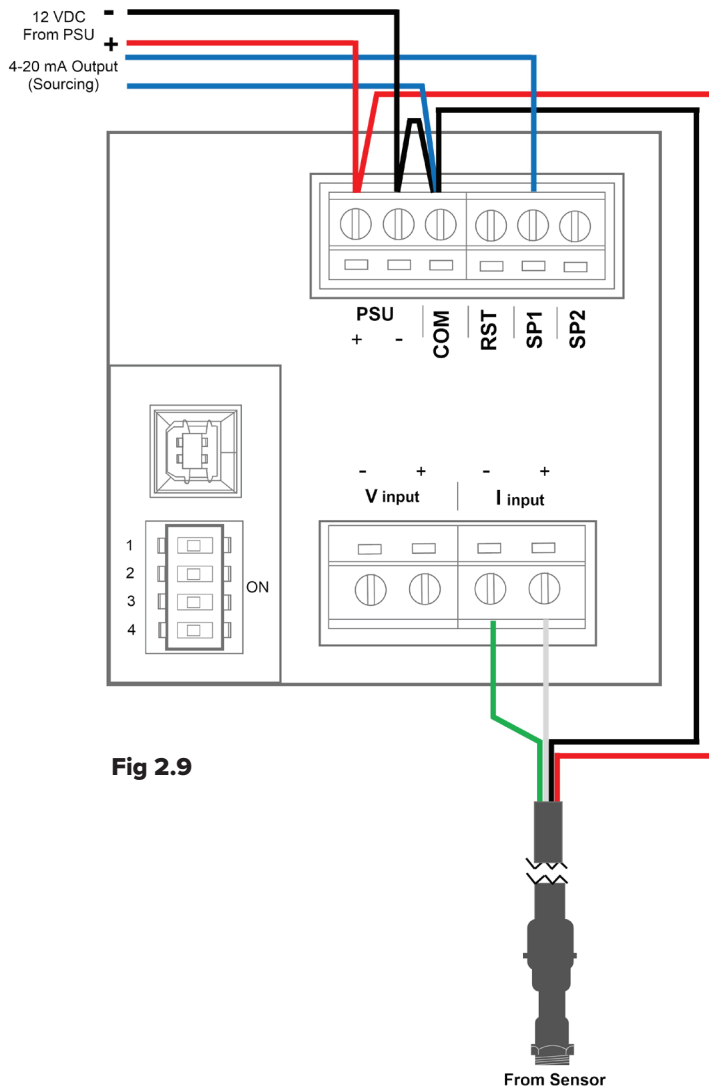

Fig 2.9
10. If being used, connect 4-20 mA output to external equipment such as a VFD (see Fig.2.9).